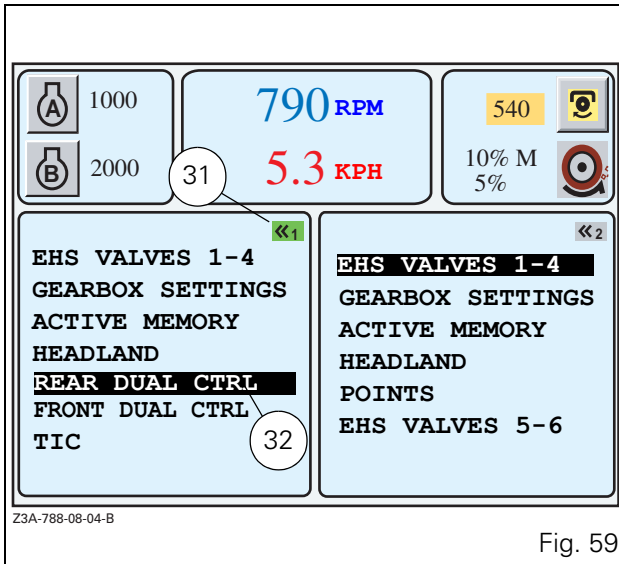

Fig. 59
REAR DUAL CTRL menu displayed in the left-hand window only (Fig. 59):
- To display this menu, press key <<1 twice. The first press selects the window and the second press displays the list if no application was activated previously. The active application is indicated by the green icon at the top right-hand of the window (31 Fig. 59), and on b/w screens the active window is indicated by the same icon in reverse video.
- To select the REAR DUAL CTRL menu, select the application using the encoder. The selected application is displayed in a black frame (32 Fig. 59).
- Pressing the key <<6 switches the DUAL to ON or OFF when the window is active (green icon 32 Fig. 59).